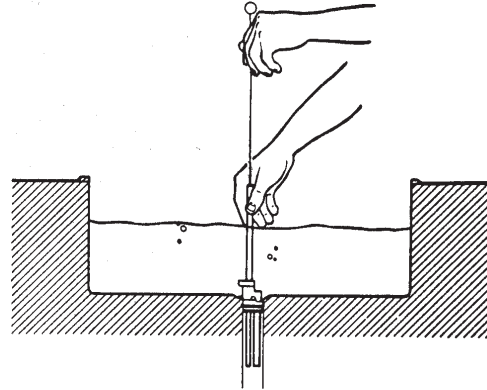

Figure 32. Sanitizing Mix Inlet Regulator (Carburetor)
3. Run a sanitized brush down mix inlet regulator (carburetor) tubes (Fig. 32).